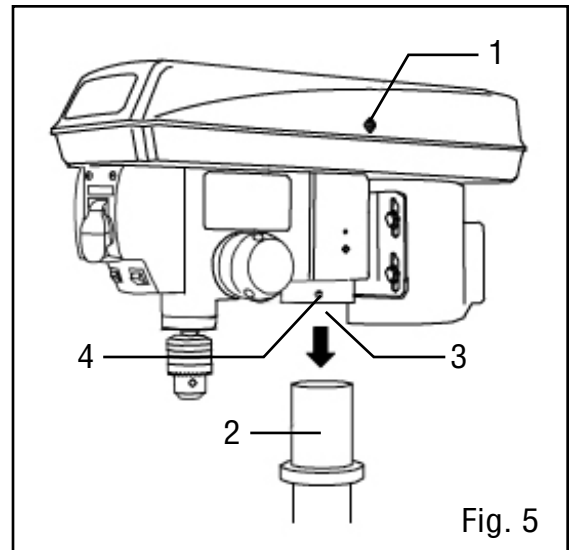

Fig. 5
DRILL PRESS HEAD TO COLUMN (FIG. 5)
1. Carefully lift the drill press head assembly (Fig. 5 - 1) and position it over the column (Fig. 5 - 2).
2. Place the mounting opening (Fig. 5 - 3) on the drill press head over the top of the column. Make sure the drill press head is seated properly on the column.
4. Tighten the set screw (Fig. 5 - 4) using the included hex wrench.